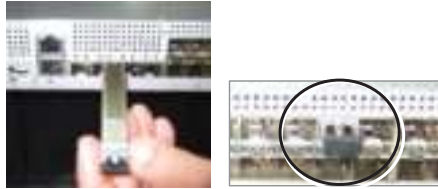

Figure 9 Remove rubber stopper from port and from SFP+ Pluggable Transceiver
2. Remove the rubber stopper from the source port (Figure 9).
2. Remove the rubber stopper from the DRU-to Remote port (Figure 9).